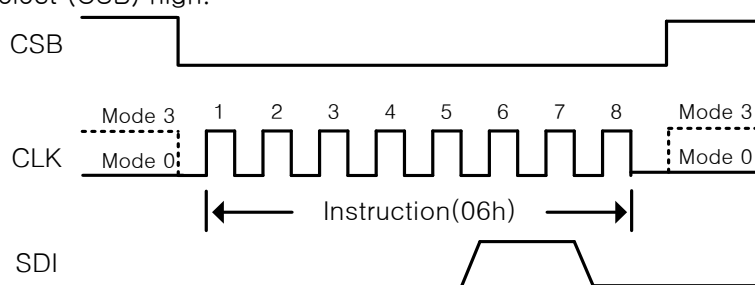

Figure 1. Write Enable instruction Sequence Diagram
The Write Enable instruction (Figure 1) set the Write Enable Latch bit. The Write Enable Latch bit must be set prior to every Page Program (PP), Sector Erase (SE), Block Erase (BE), Chip Erase (CE), and Write Status Register instruction.